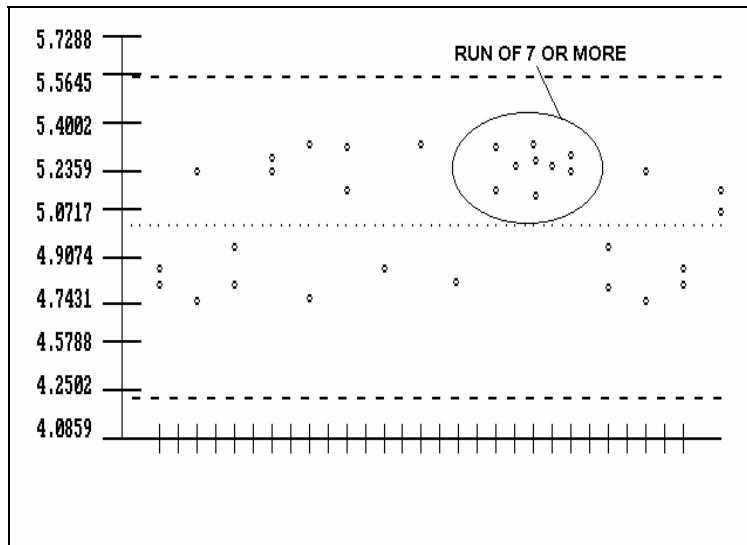

Figure B-3 Run Of 7 Or More Points
2. There are a run of 7 or more points above the centerline as Figure B-3.